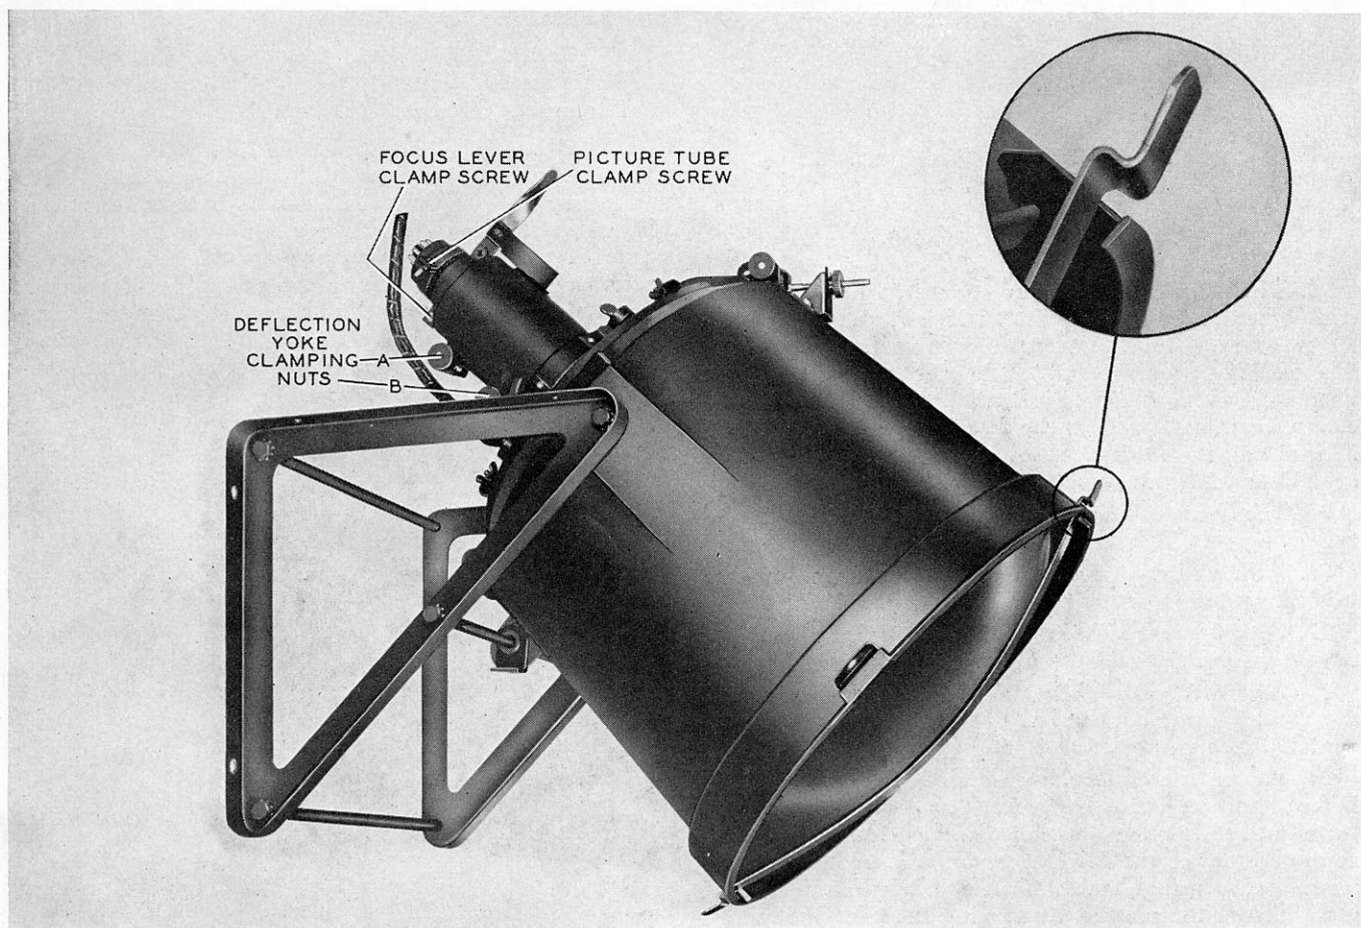
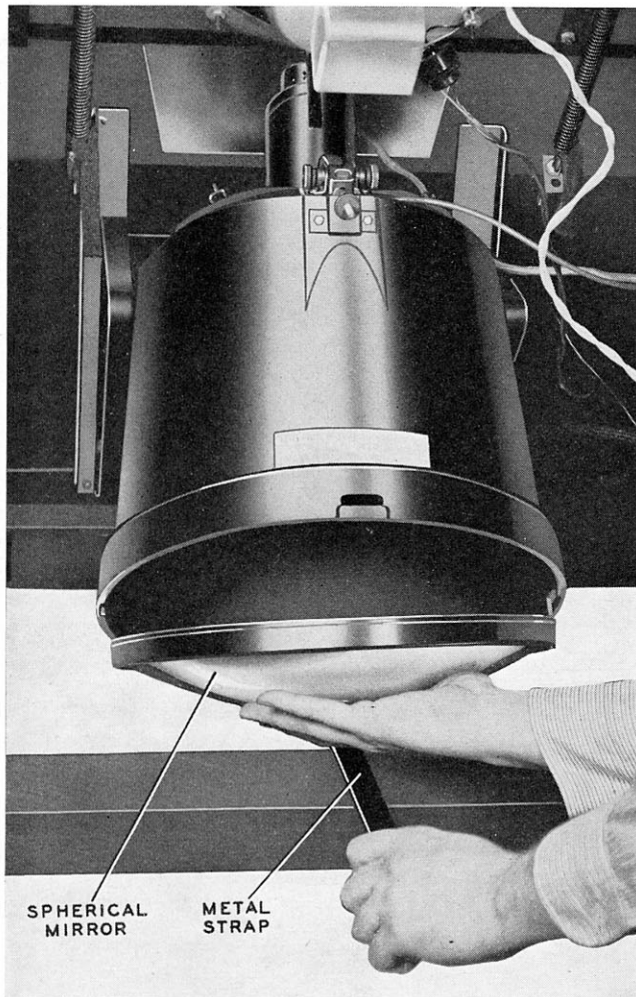
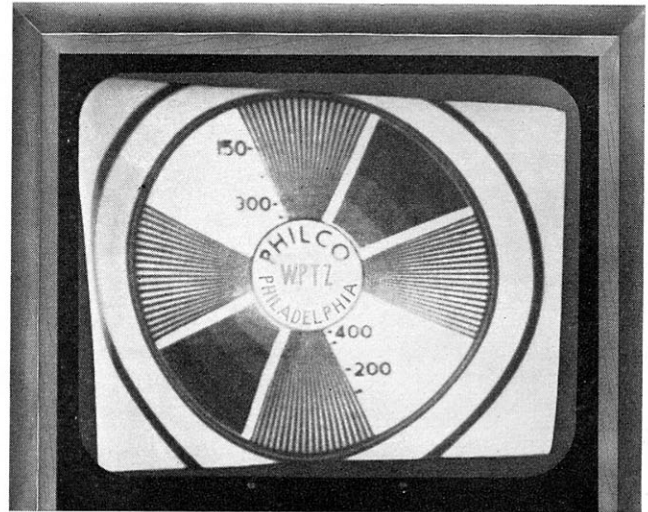
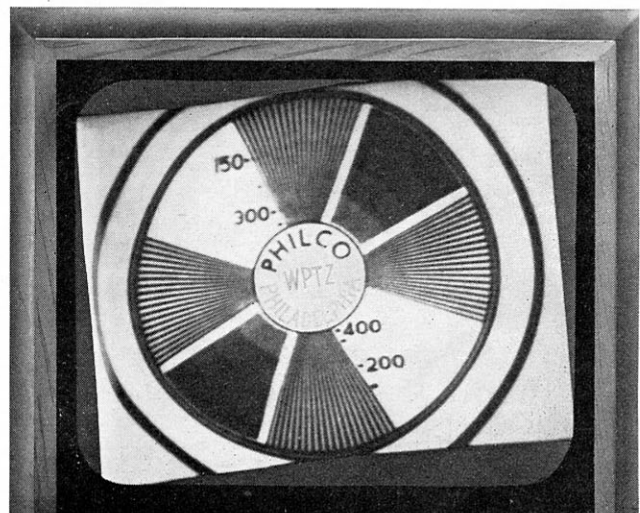

FIGURE 16. Method of Inserting Reflector Strap
FIGURE 17. Inserting Spherical Mirror TP-3652
FIGURE 18. Adjustment of Picture Tube Required TP-3830
FIGURE 19. Adjustment of Deflection Yoke Required TP-3819
17. Remove the spherical reflector and metal strap from the shipping carton. Insert the metal strap in the bottom slot of the light-shield assembly, as shown in figure 16. Hold the reflector in the palm of the hand as shown in figure 17, place it in the light shield, and slide the metal strap through the top slot to securely fasten the reflector.
19. The top and bottom edges of the picture should be parallel with each other. If not parallel (as shown in figure 18) loosen picture-tube clamp and turn the tube slowly until the top and bottom edges are parallel with each other. If parallel with each other but tilted with respect to the screen (as shown in figure 19), loosen nuts A and B and the focus-lever clamp screw sufficiently to turn the tube and yoke. See figure 16. Set the yoke so that the top edge of the picture is parallel with the screen, and then tighten the thumb screws and clamp.